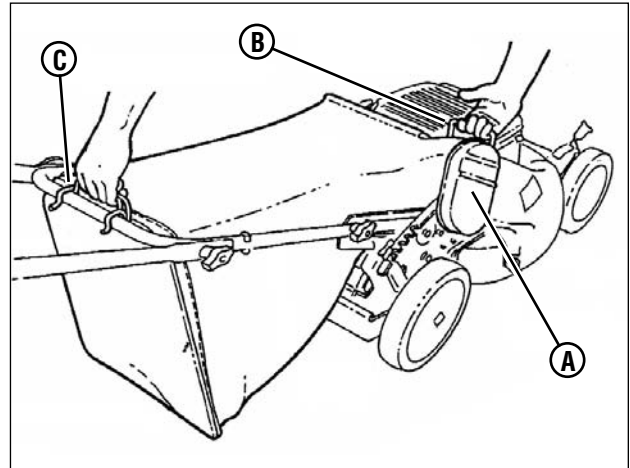

Figure 13: Installing the grass bag
2. Install the grass bag by opening the adapter door (**A**, **Figure 13**) and sliding the connector (**B**) over the adapter flange.